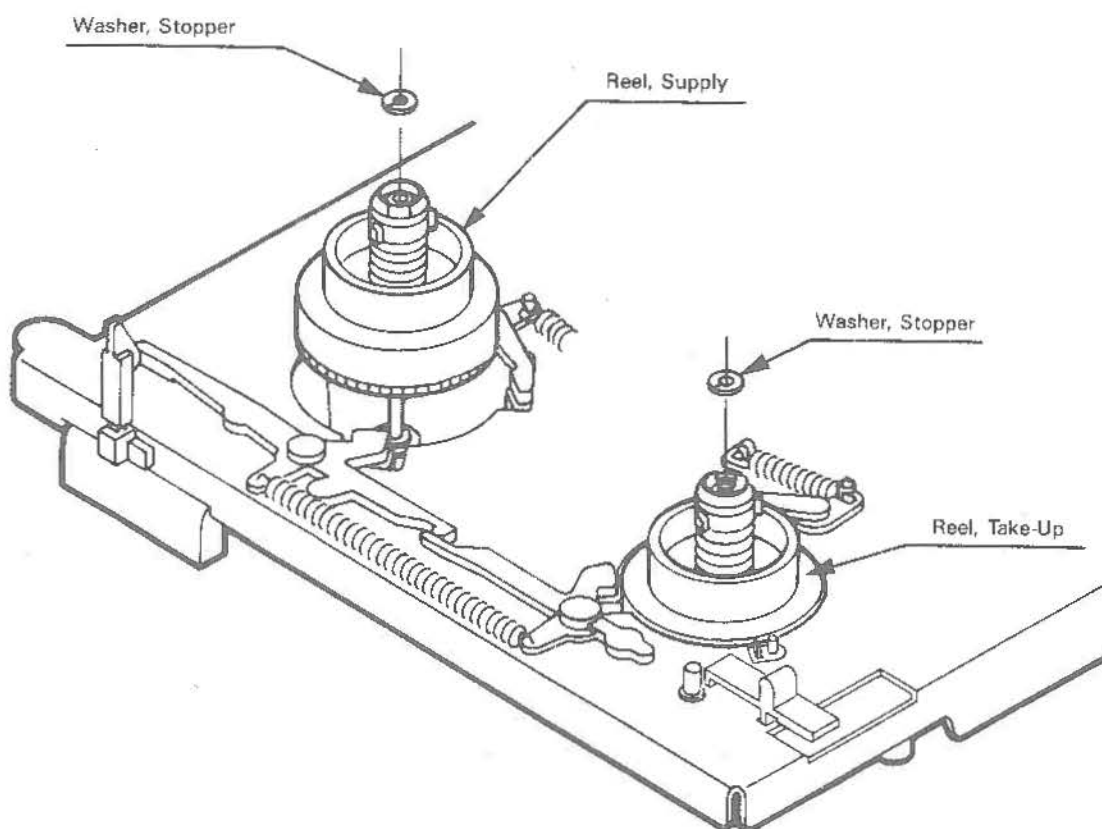

Fig. 6.3.1
1. Detach both of the reel stopper washers. (Refer to Fig. 6.3.1)